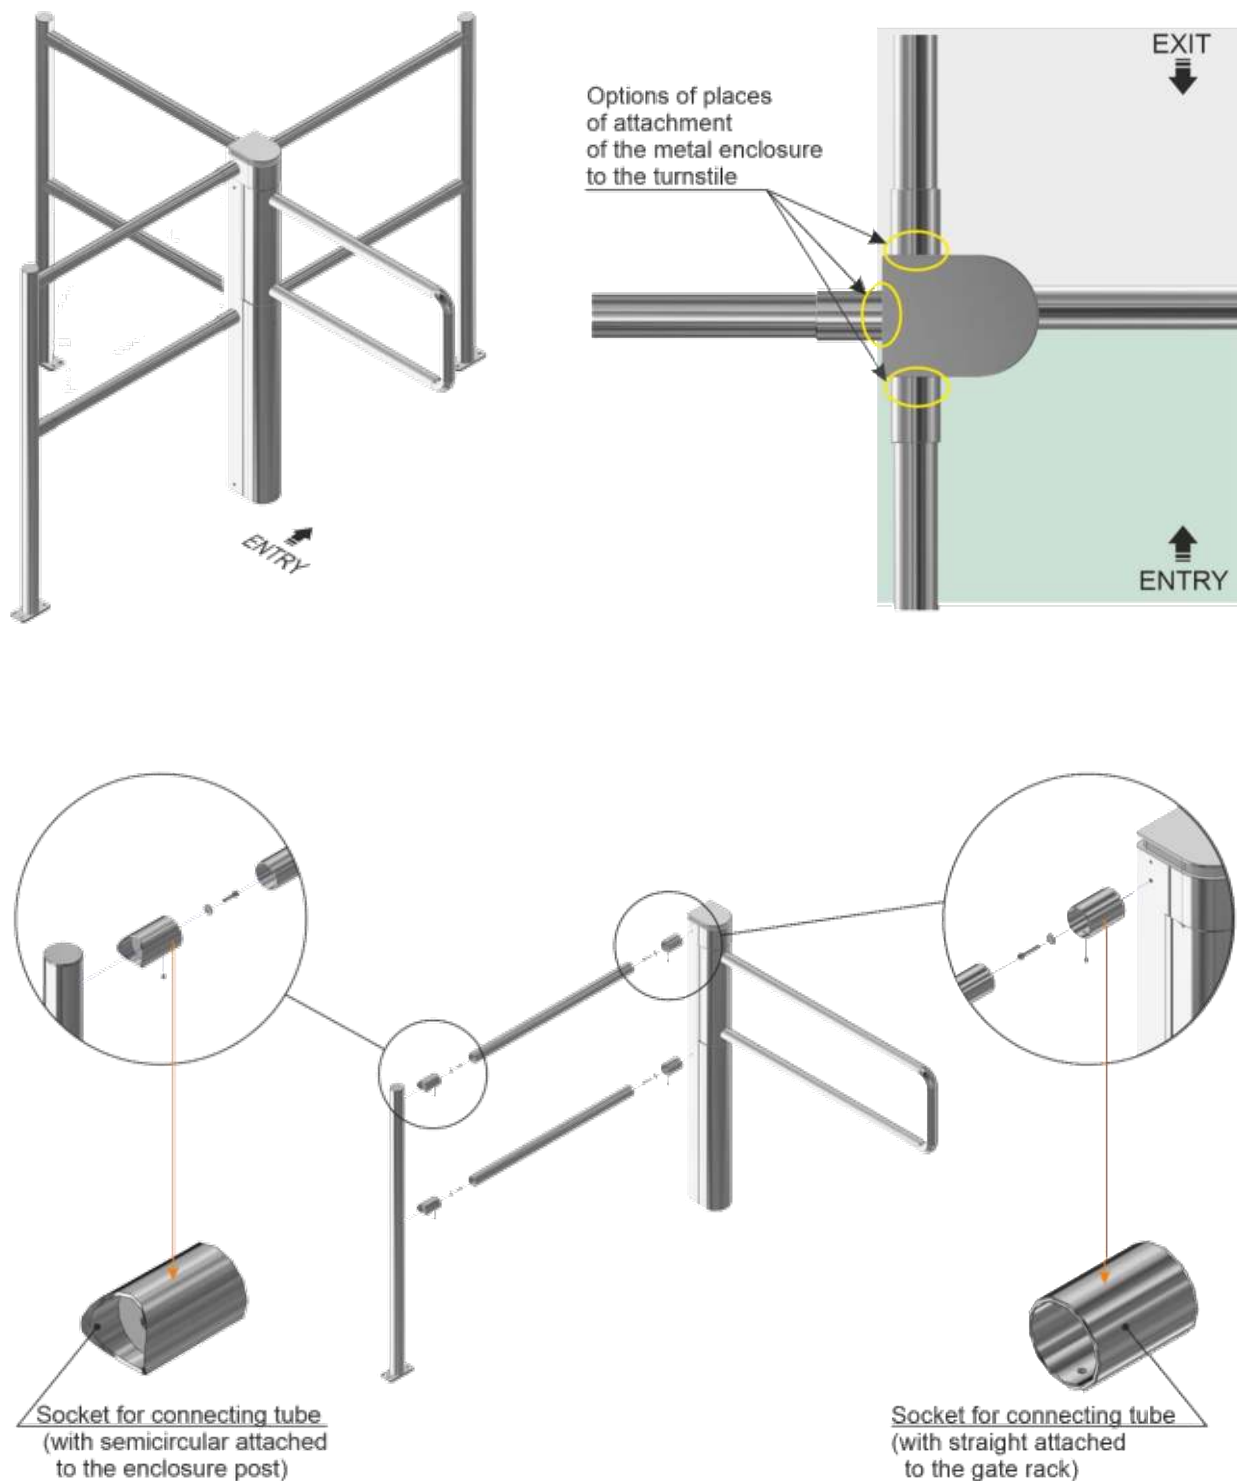

Fig.20 - Installation of enclosure for the turnstile XGate-TS
- a) ~230 V power supply cable to be connected (Fig.20):
- Neutral (N) to be connected to terminal ~230V;
- Earth (PE) to be connected to earthing terminal (PE);